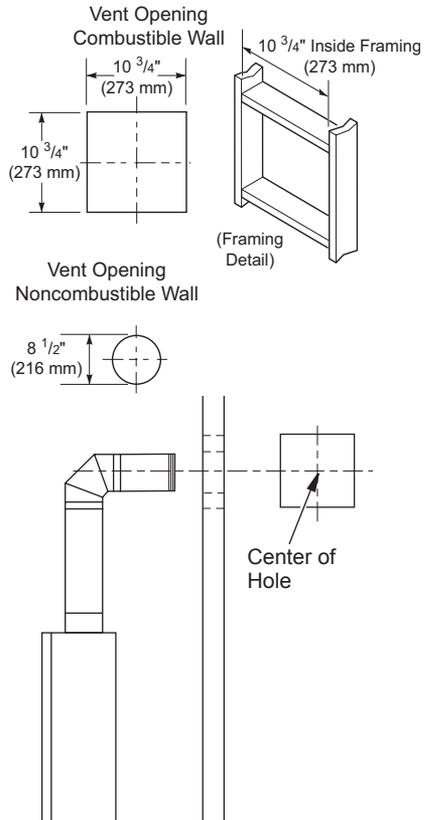
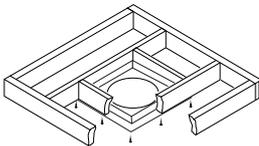

Figure 12 - Vent Opening Requirements
Figure 27 - Installing Firestop
5. Carefully determine the location where the vent pipe assembly will penetrate the outside wall. The center of the hole should line up with the center-line of the horizontal vent pipe. Mark the wall for a 10 3/4" x 10 3/4" square hole. Cut and frame the square hole in the exterior wall where the vent will be terminated. If the wall being penetrated is constructed of noncombustible material, such as masonry block or concrete, a 8 1/2" hole with zero clearance is acceptable (see Figure 12).
1. Cut a 10 ³/₄" square hole in the ceiling using the locating hole as a center point. The opening should be framed to 10 ³/₄" x 10 ³/₄" (273 mm x 273 mm) inside dimensions, as shown in Figure 12 on page 11 using framing lumber the same size as the ceiling joists. If the area above the ceiling is an insulated ceiling or a room, nail firestop from the top side. This prevents loose insulation from falling into the required clearance space. Otherwise, install firestop below the framed hole. The firestop should be installed with no less than three nails per side (see Figure 27).
3. Cut a hole in the roof using the locating hole as a center point. (Cover any exposed open vent pipes before cutting hole in roof.) The 10 ³/₄" x 10 ³/₄" hole must be measured on the horizontal; actual length may be larger depending on the pitch of the roof. There must be a 1" clearance from the vent pipe to combustible materials. Frame the opening as shown in Figure 12, page 11.